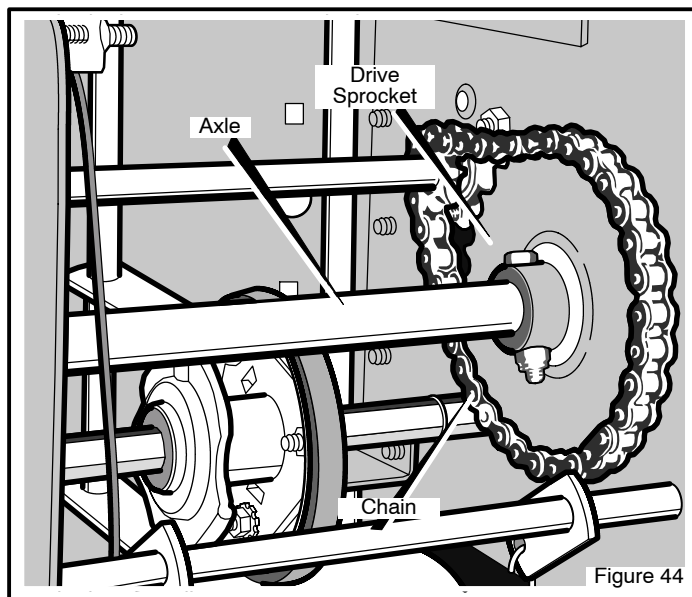

Figure 44
6. Remove the fasteners that secure the **drive sprocket** to the **axle** (see Figure 44).
15. Install the right wheel, **axle**, and **drive sprocket** with the fasteners removed earlier. Install the **chain** onto the **drive sprocket** (see Figure 44).